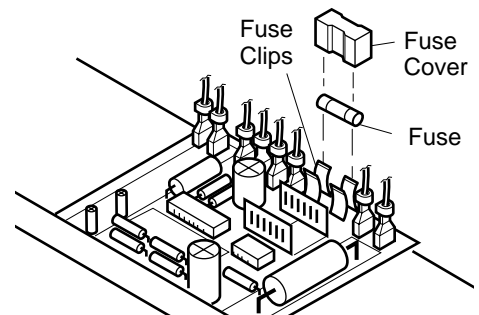

Figure 19 - Replacing Fuse
2. Remove side cover screws (4) using 5/16" nut-driver to expose ignition control assembly.
3. Remove fuse cover (see Figure 19).